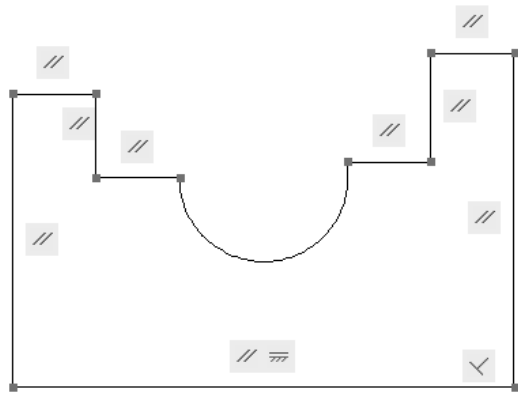

Figure 11-29 Constraints applied automatically
4. Choose the **OK** button; you will be prompted to select objects. Draw a selection box, select all entities of the sketch and then, press ENTER; all possible constraints are applied to the sketch, as shown in Figure 11-29.
The constraints applied using the **AutoConstrain** command may vary depending upon the profile. In your case, if the constraints are different than that shown in Figure 11-29, apply the missing constraints.